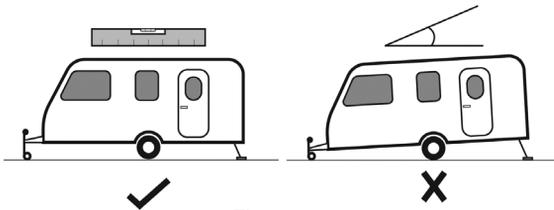

Figure 2
- (Figure 2) Ensure your caravan, motorhome or panel van is on a level surface and secured.